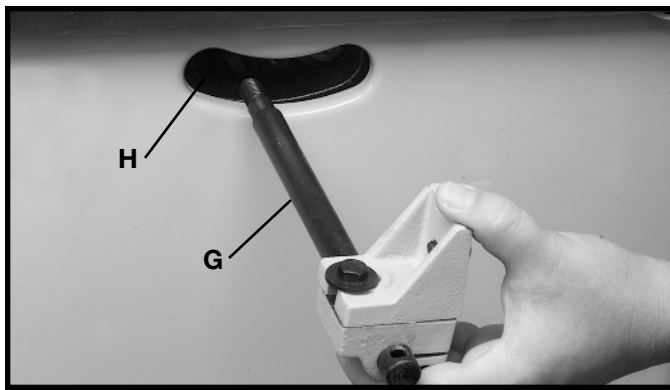
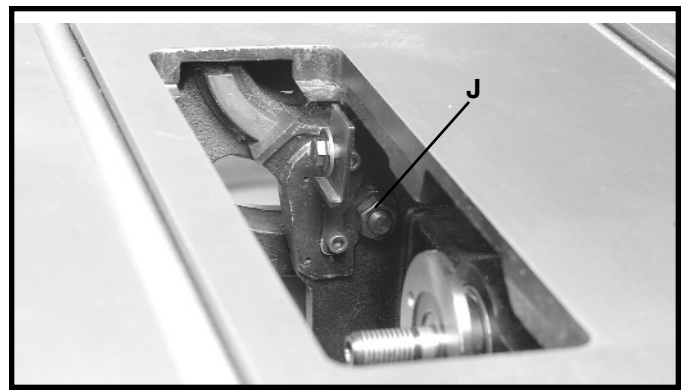
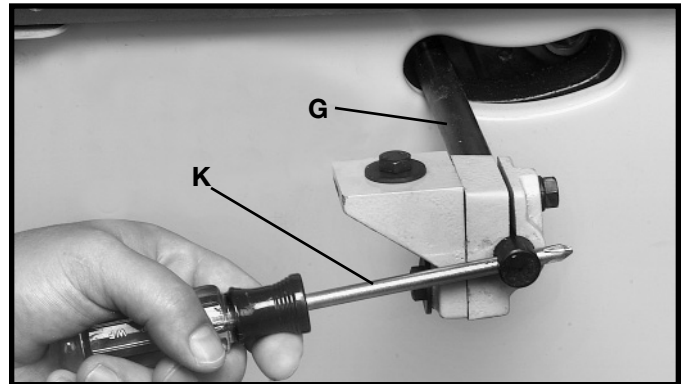

Fig. 12
Fig. 13
Fig. 14
5. Insert threaded end of support rod / splitter bracket (G) Fig. 12, through slot in rear of saw and into hole in rear trunnion (H). Fasten support rod / splitter bracket (G) to trunnion with a M12.1 washer and M12x1.75 hex jam nut (J) Fig. 13. **NOTE:** Thread nut (J) Fig. 13, onto threads of support rod (G) as much as possible by hand.
6. Using a wrench to hold the M12x1.75 hex jam nut (J) Fig. 13, tighten rod (G) Fig. 14, by inserting a small screwdriver (K) or similar device through the hole in the end of the rod.